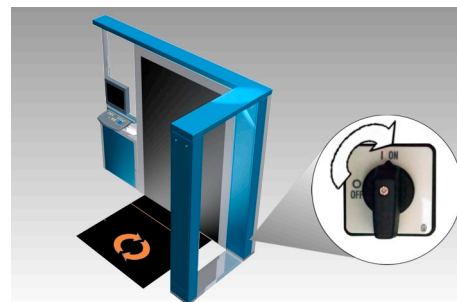

Fig. 51: Main switch
- ▷ Turn the main switch of the eqo system clockwise into the ON position (see Fig. 51). The unit is now ready to switch-on.